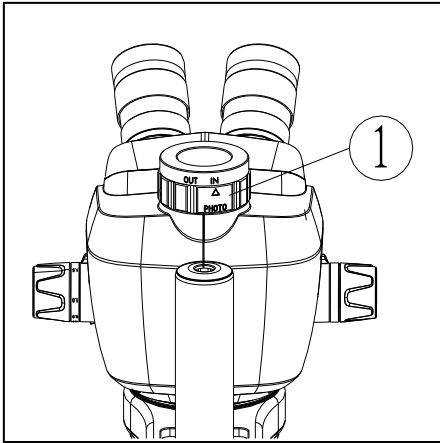

Fig 11
1. Through binocular light path to observe sample, please turn the switching knob ① to **IN**. (Fig 11)
2. Through camera light path, please turn the switching knob ① to **OUT**. (Fig 11)